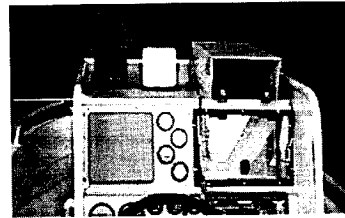

Figure 2
6.2 Place the NAV-398 GPS Display mounting brackets 1 inch from the left edge of the console top and  $\frac{1}{2}$  inch from the front edge of the console as shown in figure 2 and enclosure 1. Mark the bracket holes using the mounting brackets as a template. Drill the holes to accept four  $\frac{3}{4}$  inch 10/24 stainless 316 marine grade bolts. Drill a  $\frac{1}{2}$  inch hole 1-inch centered behind the mounting bracket to accept the GPS sensor cable. Mount NAV-398 display brackets to the top of the console, using lock nuts on the marine grade bolts to mount the brackets. Route the RAYSTAR sensor cable through  $\frac{1}{2}$  inch hole and connect it to the NAV-398 display. Install weather stripping or stuffing material to prevent water and dust seepage.